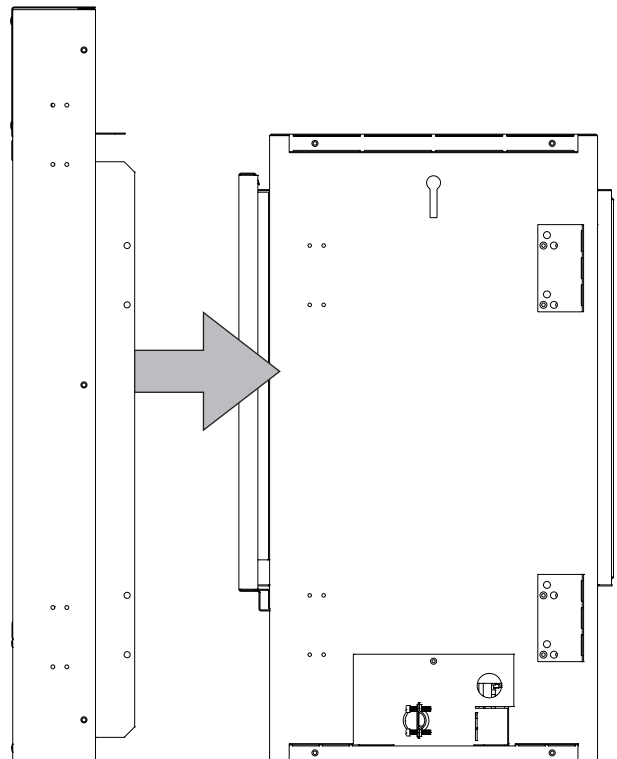

Figure 8
10. Slide the outer glass and frame over the top and sides of the fireplace. See Figure 8.